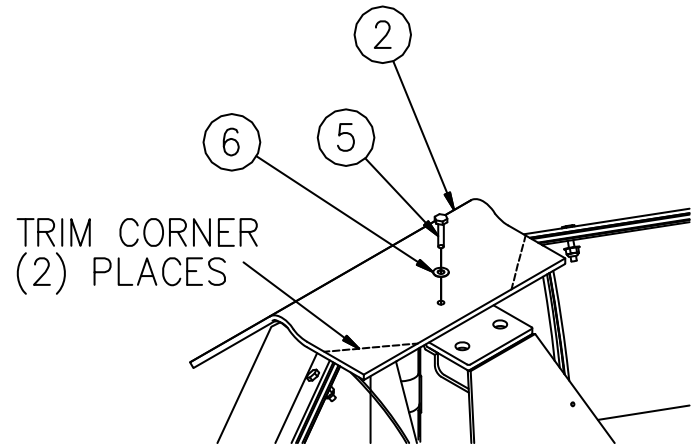

Figure 7. Center Flap Installation G10023
10) Fold Center Belting (2) over the top of the plow as shown in Figure 7.
11) Drill a hole that is centered and approximately 1-1/2" from the back of Center Belting (2).
12) Using 1/2" Bolt (5) and 1/2" Flat Washer (6), attach Center Belting (2) to the top of Center Section by utilizing the threaded hole that is located behind the center hinge pin.
13) Remove any excess material from the lower back of Center Belting (2) so that it does not interfere with the plow. Reference Figure 7 above.